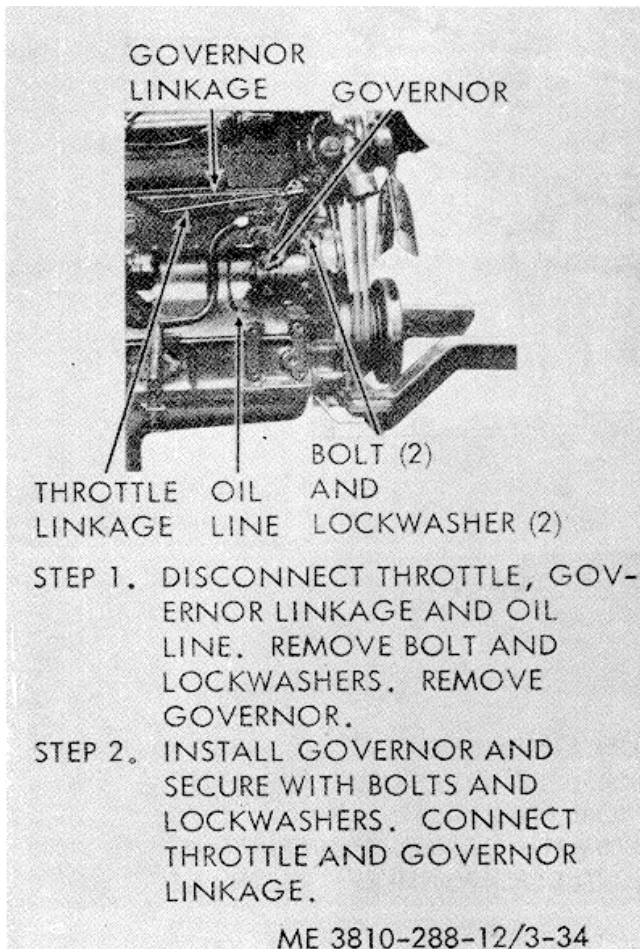

Figure 3-34. Engine speed governor, removal and replacement
(2) *Replacement.* Refer to figure 3-34 **and** remove and replace the engine speed governor.